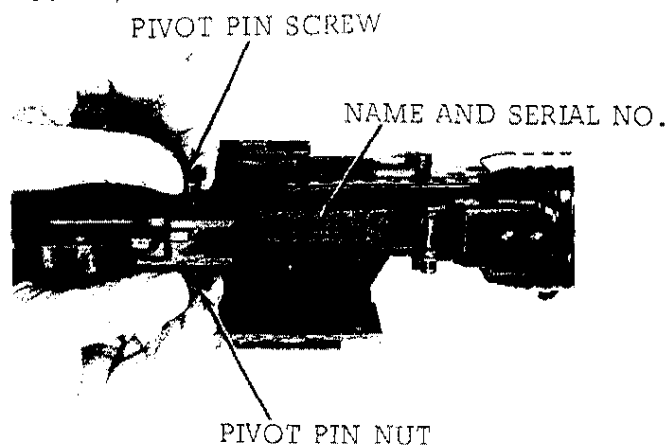

FIGURE 14. REMOVING THE PIVOT PIN SCREW AND PIVOT PIN NUT
- (1) Unscrew the pivot pin screw from the pivot pin nut, and remove (figure 14).
- (2) Remove the trigger housing group from the receiver group.